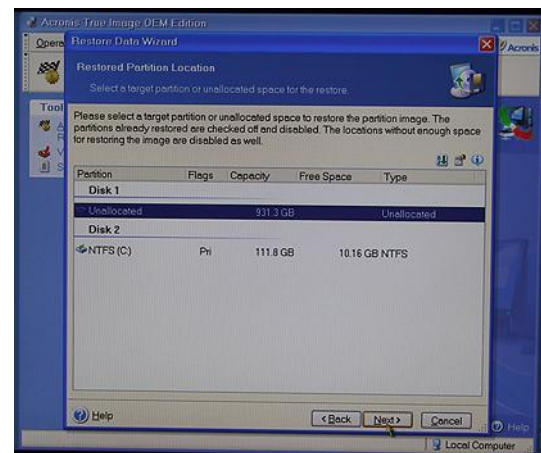

Figure 3-62
- 26) Select the **NTFS (C)** option (a tick-mark indicates that the option has been selected) and then click the **NEXT** button to be presented with the **Restored Partition Location** page (Figure 3-62).